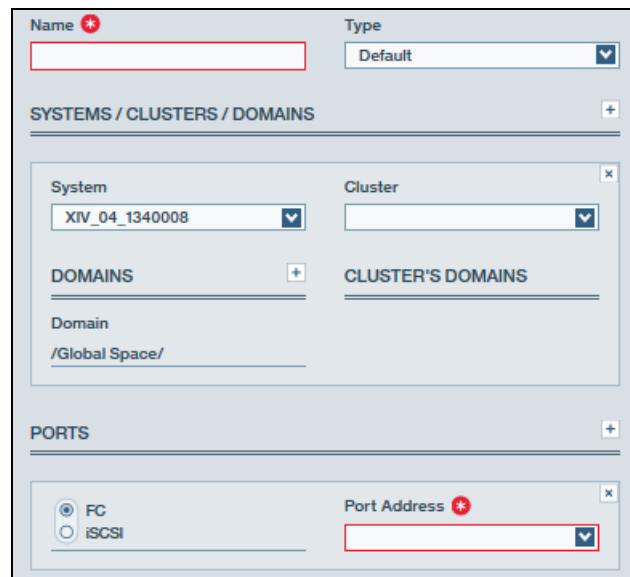

Figure 1-28 Add Host details
2. The new Host view is displayed. The Add Host settings window opens (see Figure 1-28).
- Select whether you want an iSCSI or FC connection. Host access to LUNs is granted depending on the host adapter ID. For an FC connection, the host adapter ID is the FC HBA WWPN. For an iSCSI connection, the host adapter ID is the host IQN. To add a WWPN or an IQN to a host definition, click the plus sign (+) icon to the right of the PORTS heading (see Figure 1-28 on page 35).